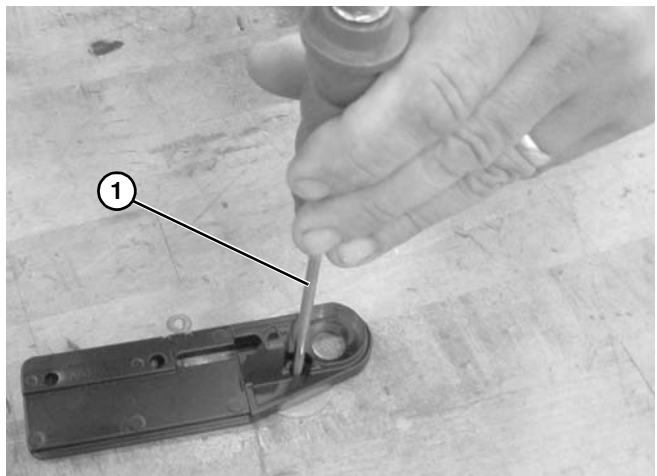
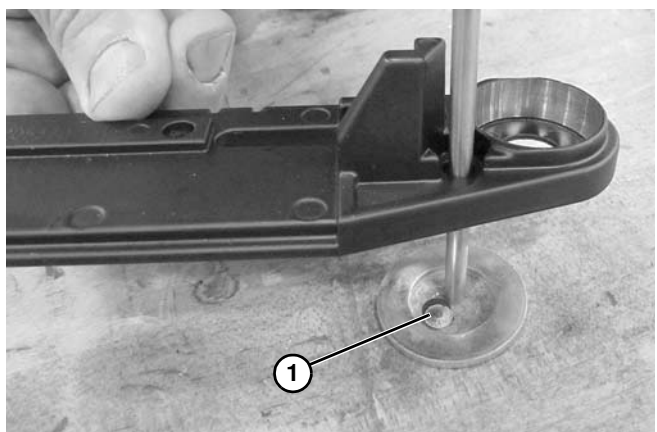

Figure 85
Figure 86
4. Repeat the same operation to knockout (**Figure 86, item 1**) for alignment screw hole using a 3 mm - 5 mm punch (**Figure 85, item 1**) or M5 - M6 bolt.